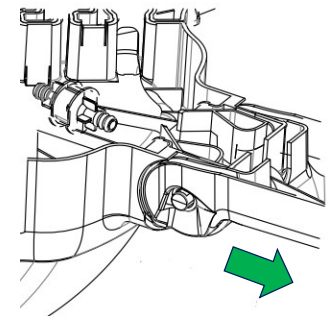

Figure 2.4
- D. Remove each arm off its pivot on the base by just firmly pulling on it (Figure 2.4). It will just pop off.